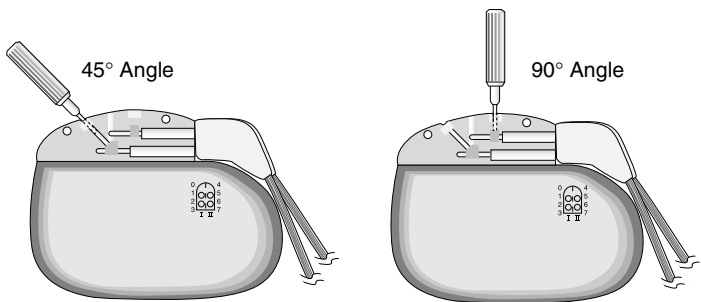

Figure 10. Tighten setscrew in rubber grommet.
12. Using the hex wrench included in the package, tighten each setscrew clockwise (Figure 10) until it touches the connector pin—continue tightening for **a maximum of 1/4 turn only**.
Note: In the Synergy and Synergy Versitrel Neurostimulators, four setscrews are located on the top of the connector block, two for each plug. Two setscrews are oriented at a 90° angle and two are oriented at a 45° angle. When tightening the setscrews, the hex wrench must be oriented at the same angle as the setscrews (Figure 10).